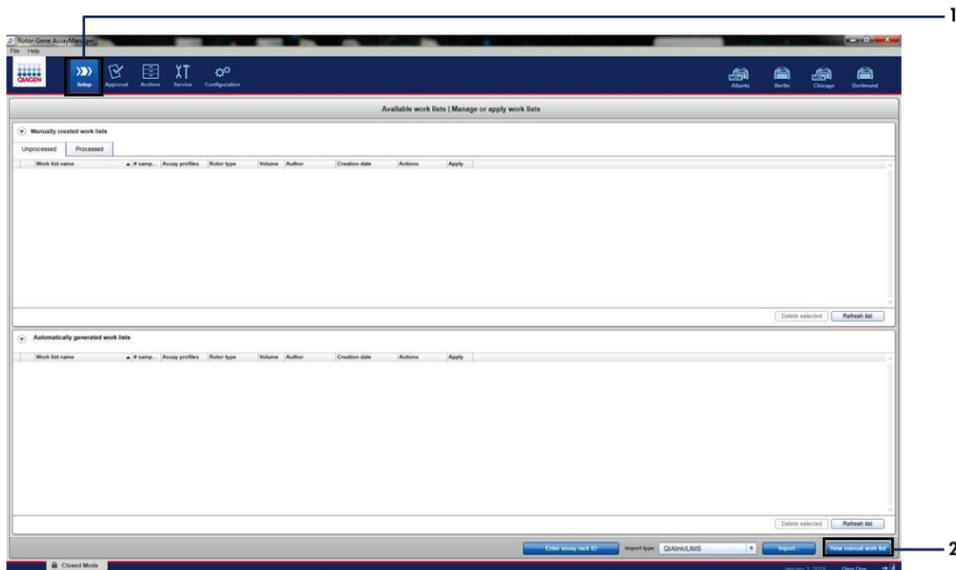

Figure 6. Setting up new manual worklist. 1 = "Setup" tab, 2 = "New manual work list".
14. The Setup environment appears by default. Click **New manual worklist** to create a new worklist (Figure 6).